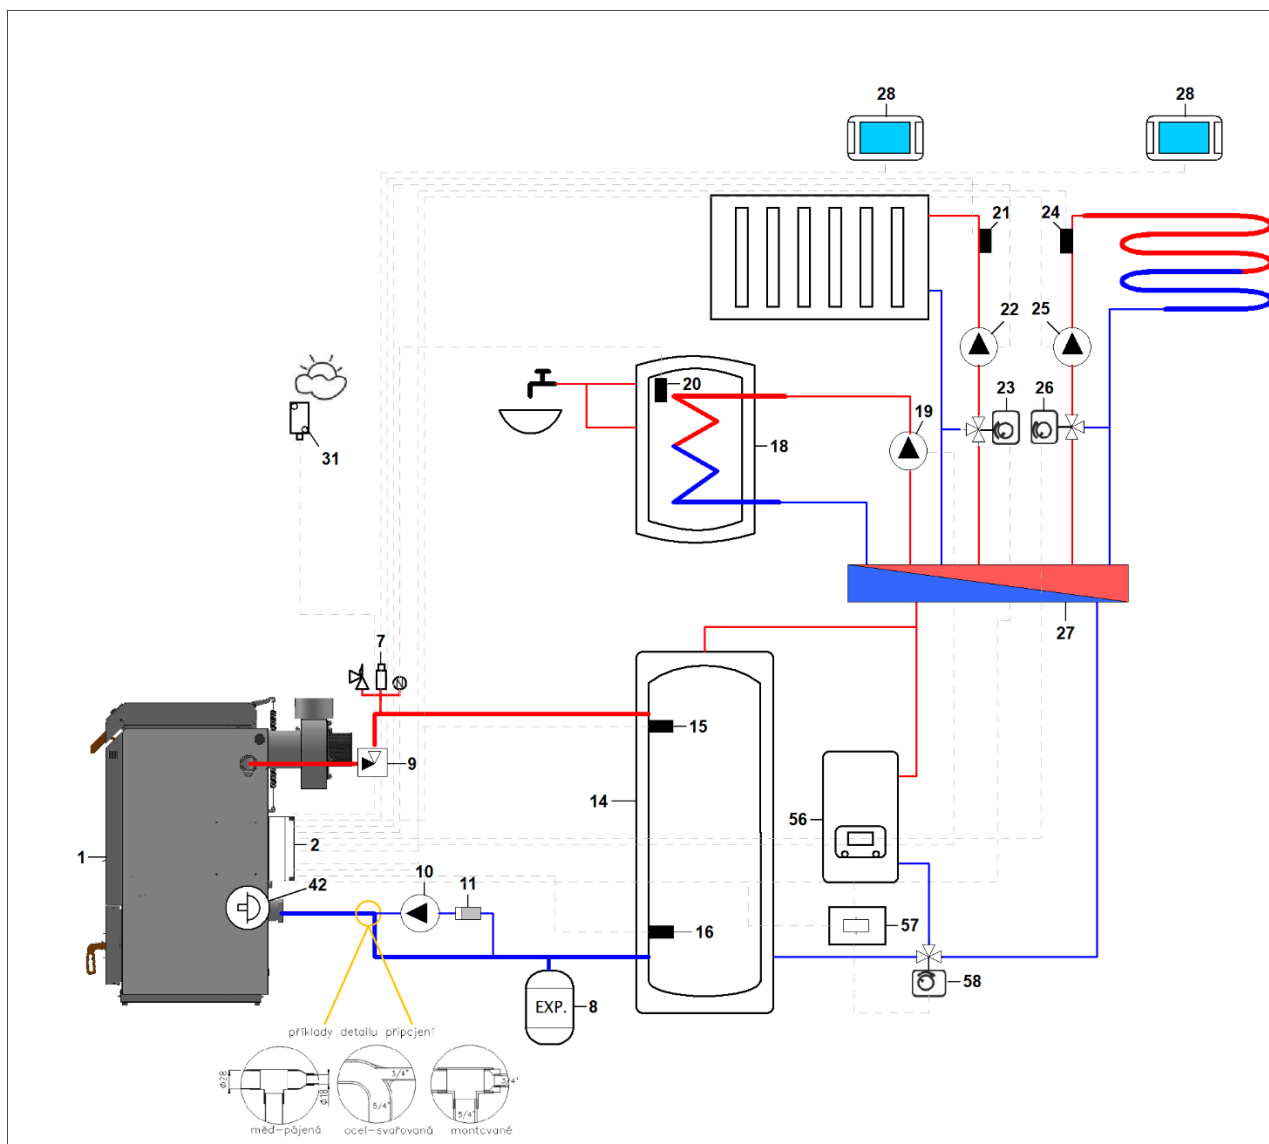

Figure 33. Hydraulic connection with reserve boiler (56) and diverter valve (58)
*A three-way diverter valve can be connected to separate the heating circuit and HUW from the storage tank to prevent it from heating up - see Figure 33.*